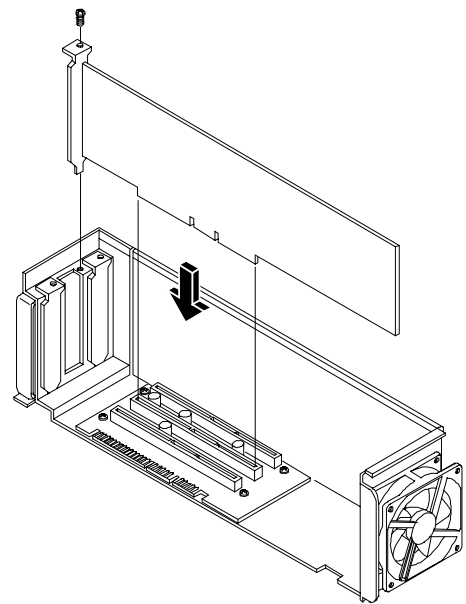

Figure 5-5. Inserting a PCI Card
- b. Slide the PCI card into the PCI slot. See Figure 5-5.